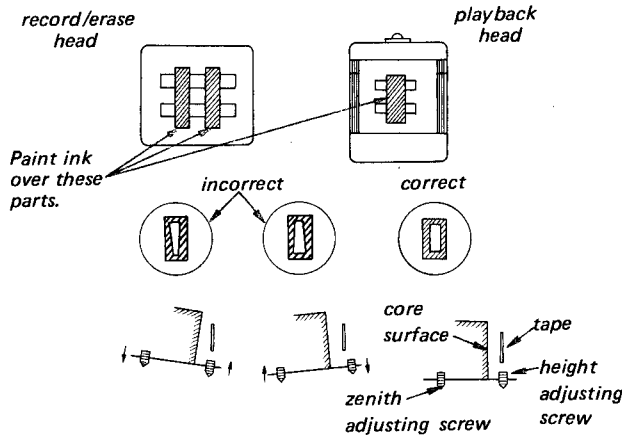

Fig. 3-25. Head zenith and height adjustment
3. Paint the head core with black ink as shown in Fig. 3-25.
4. After the ink dried, run the tape in the FWD direction for 20 to 30 seconds. Watch the ink on the core fading away. When the same wide amount of the faded away part cannot be obtained at every point, turn the zenith and height adjusting screws in the direction shown by the arrows. See Fig. 3-25. Repeat this step several times until the satisfied result is obtained. After the adjustment clean the core with a soft cloth dampened with denatured alcohol.
3. Paint the record/erase head cores with ink as shown in Fig. 3-25.
4. After the ink dried, run the tape in the FWD direction for 20 to 30 seconds. Watch the ink on the core fading away. When the ink does not fade away in the same wide amount at every point, turn the zenith and height adjusting screws in the direction shown by the arrows. See Fig. 3-25. Repeat this step several times until the satisfied result is obtained. After adjustment clean the cores with a soft cloth dampened with denatured alcohol.